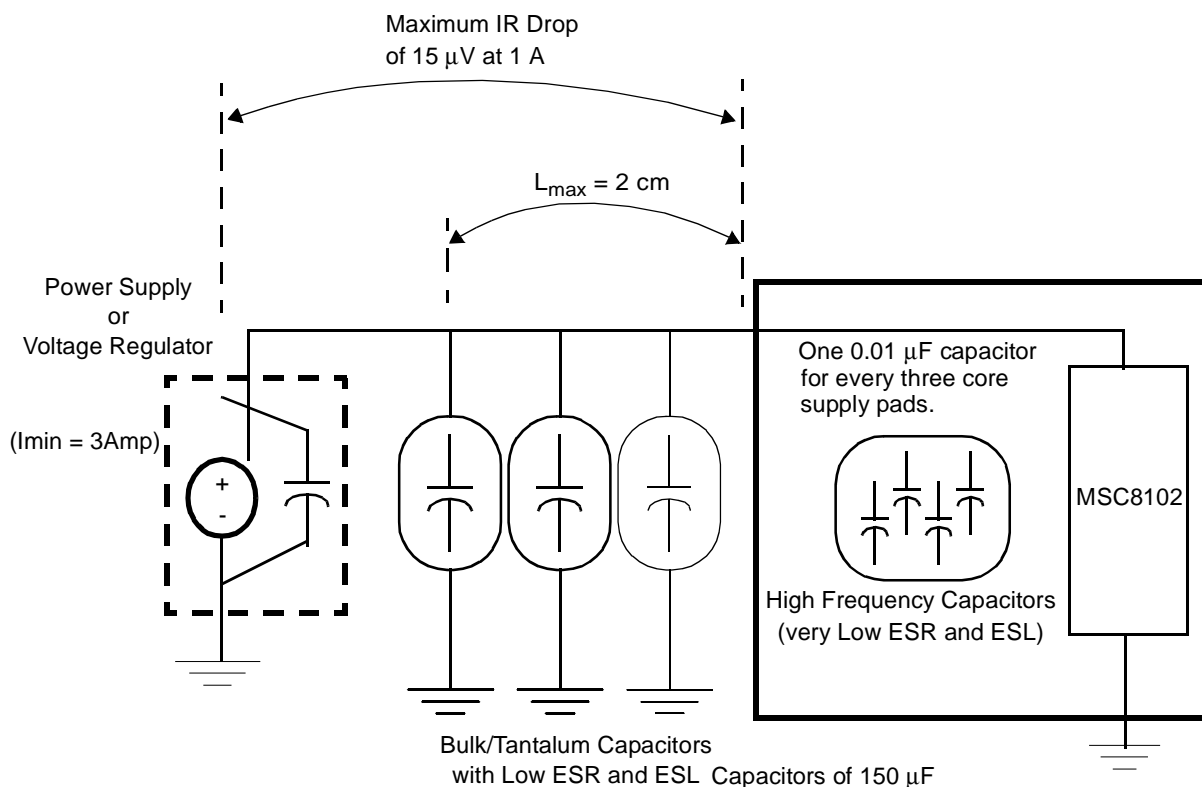

Figure 2. On-Board Power Supply Decoupling
- Decoupling.** Both the I/O voltage (V_{DDH}) and core voltage (V_{DD}) should be decoupled for switching noise. For I/O decoupling, use standard capacitor values of $0.01\ \mu\text{F}$ for every two to three voltage pins. For core voltage decoupling, use two levels of decoupling (see **Figure 2**). The first level should consist of a $0.01\ \mu\text{F}$ high frequency capacitor (with low ESR and ESL) for every two to three voltage pins. The second decoupling level should consist of no less than three $150\ \mu\text{F}$ bulk/tantalum decoupling capacitors (with low ESR and ESL) mounted as closely as possible to the MSC8102 voltage pins. Following this guideline, approximately twelve $0.01\ \mu\text{F}$ capacitors should be used on the I/O (V_{DDH}) supply and placed as closely as possible to the MSC8102 device. Approximately seventeen $0.01\ \mu\text{F}$ capacitors should be used on the core (V_{DD}) supply, placed as closely as possible to the MSC8102 device.